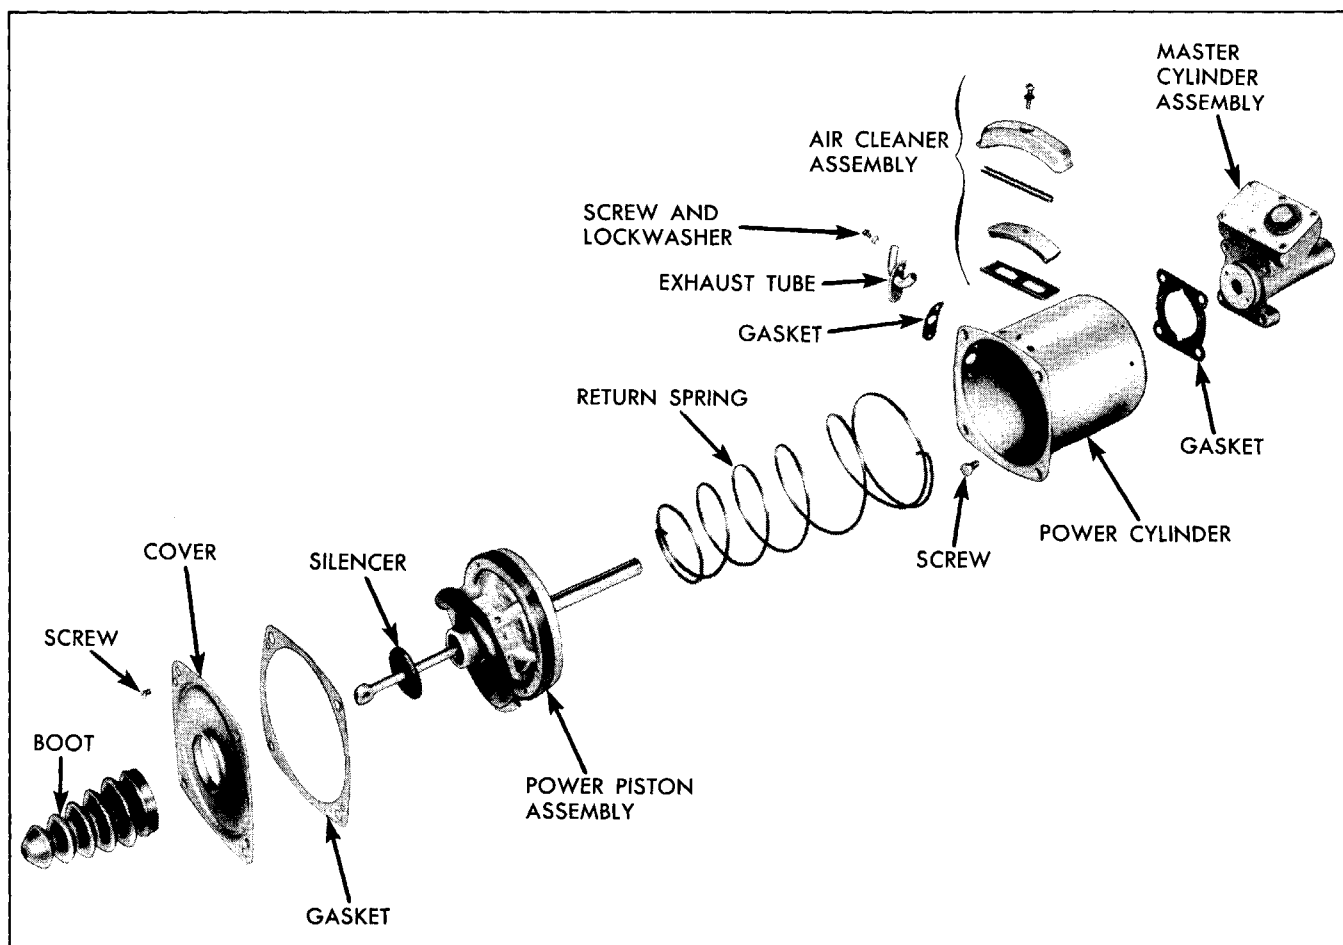

Fig. 5-40 Moraine Power Brake Unit—Exploded View
3. Remove boot and felt silencer from push rod end of power brake unit (Fig. 5-40).
DISASSEMBLY OF AIR CLEANER UNIT (FIG. 5-40)